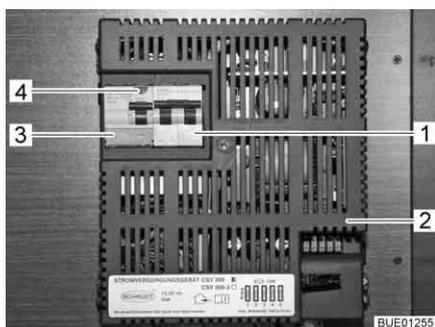

Fig. 114 230 V automatic circuit breaker and FI-switch (CSV 300)
A fault current protection switch (FI-switch) (Fig. 114,3) in the power supply unit CSV 300 (Fig. 114,2) protects the complete vehicle from fault current (0.03 A).
A downstream two-pole safety cut-out (Fig. 114,1) in the power supply unit protects the 230 V power supply.
- When the vehicle is connected to the 230 V power supply, press the test button (Fig. 114,4). The fault current protection switch (FI-switch) must trip.